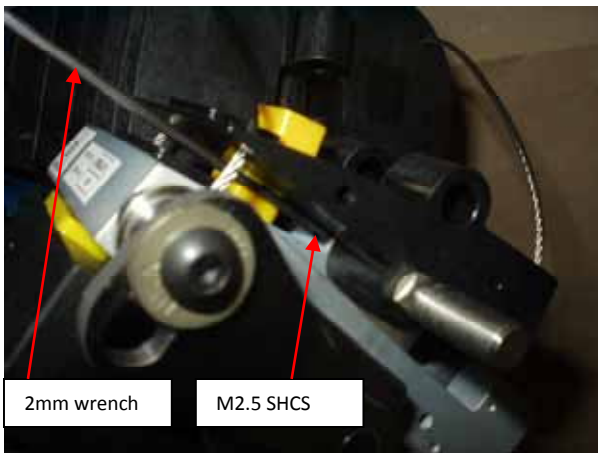

Figure 107 - Remove T1 Pin
12. Slide the T1 pin out of the vertebrae joint and set aside along with the two M2.5 SHCS for re-installation later (Figure 107).